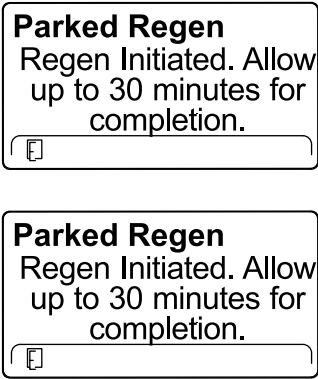

Figure 57
- The InfoCenter displays the time to complete message (Figure 57).